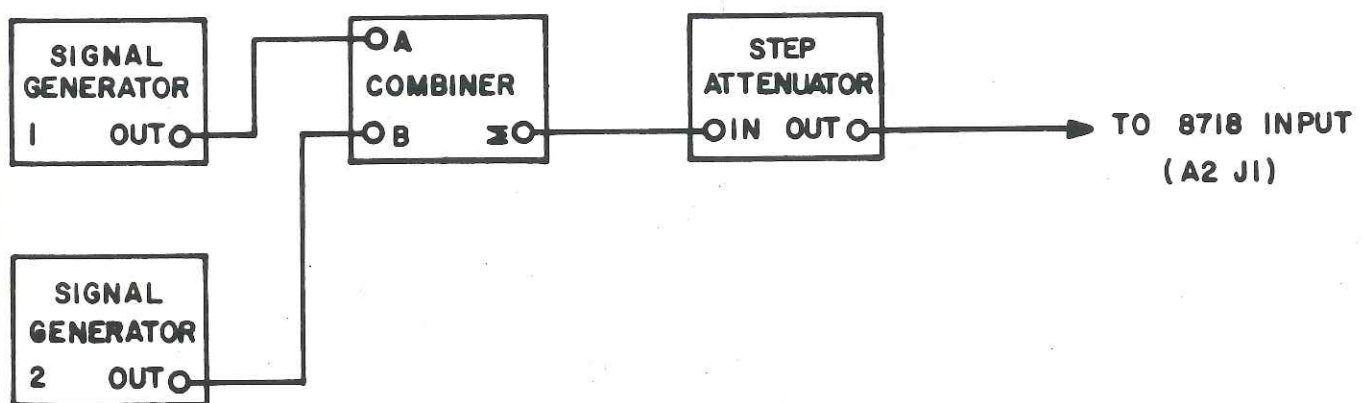

Figure 1-1. COR Option Test Setup
1. Connect the equipment as shown in Figure 1-1.